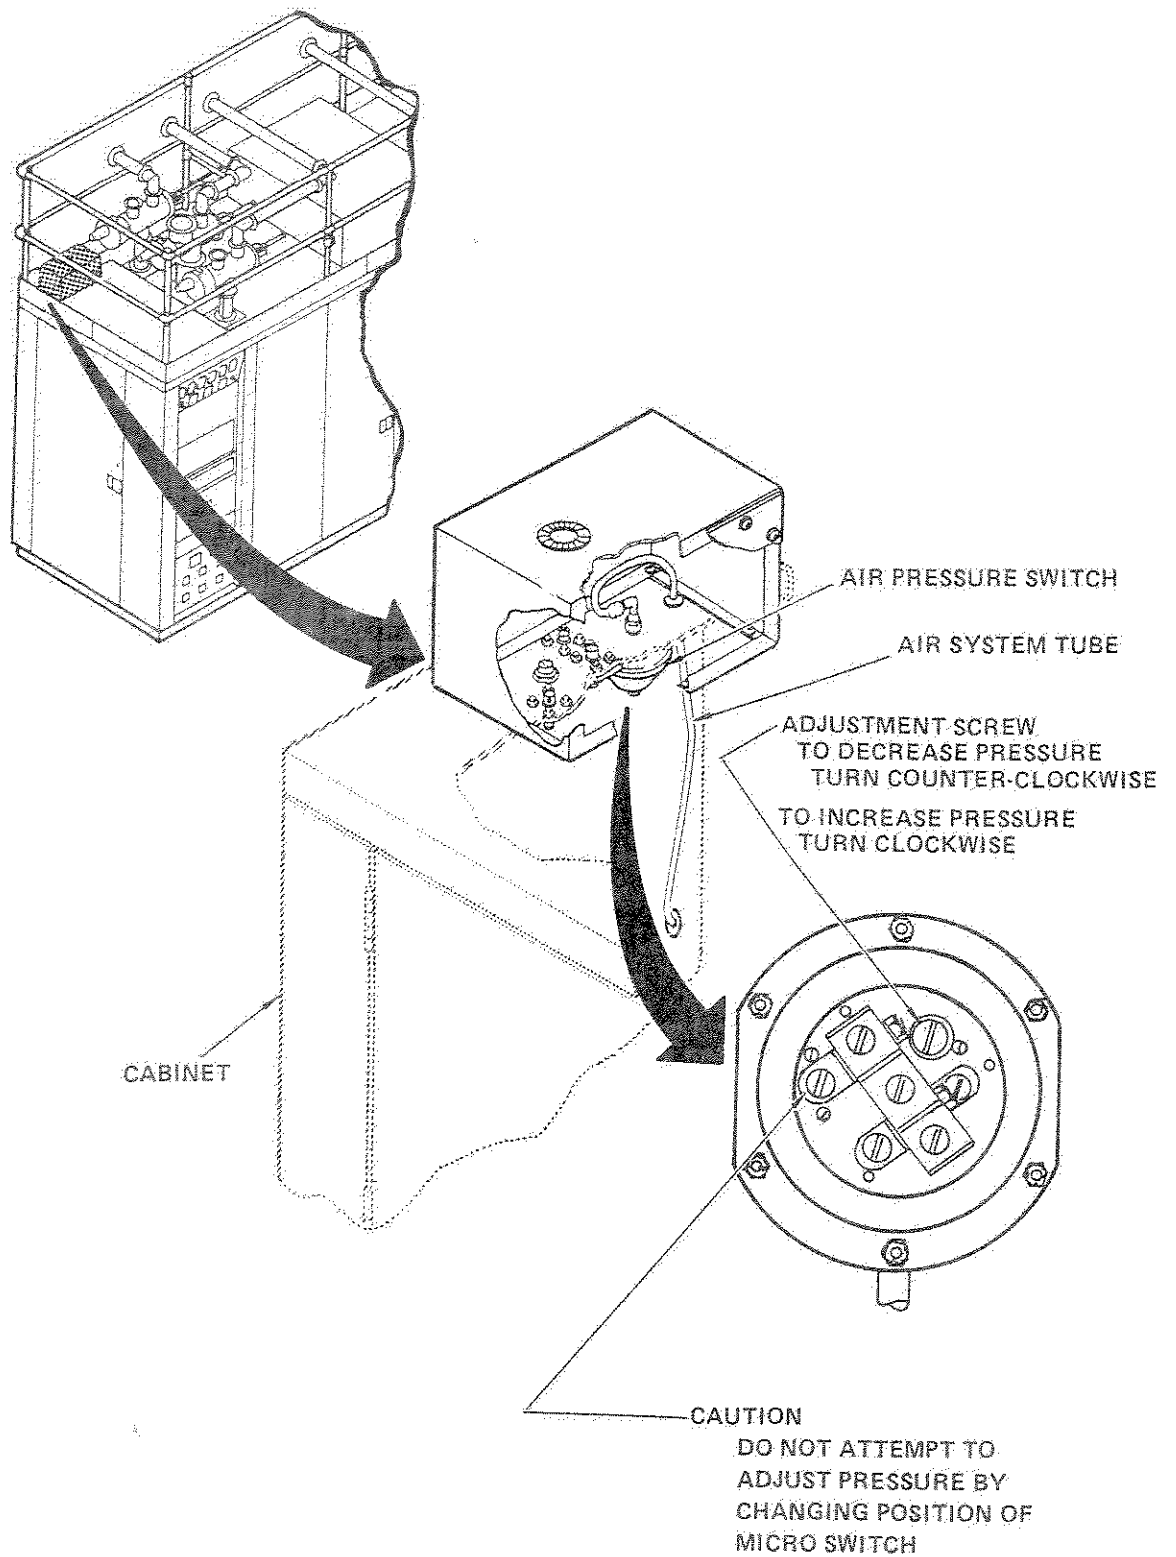

Figure 6-113.1. Pressure Switch Adjustment
7. Locate air pressure switch. See figure 6-113.1.
8. Adjust the air pressure switch by turning the adjustment screw CW, see figure 6-113.1, 22 until air interlock light illuminates. Then turn adjustment screw CW 1/8 of a turn more.